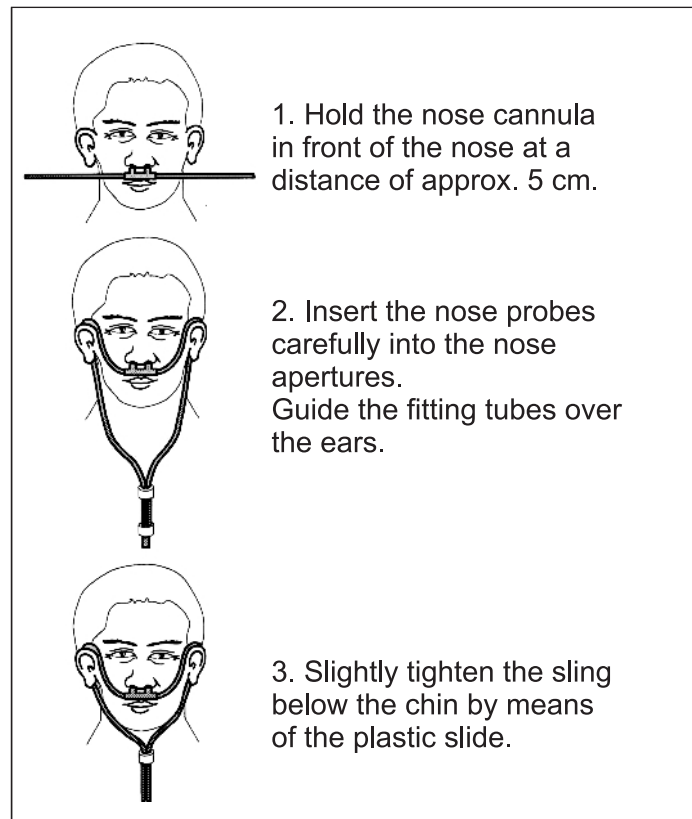

Figure 8: Application of the nose cannula
3. Activate the controller OXYJET by using the pushbutton (1). By pressing the pushbuttons (1) and (4) several times you are able change the program shown on the display.
4. Apply the nose cannula as shown in figure 8. When breathing in through the nose the OXYJET will start operation.